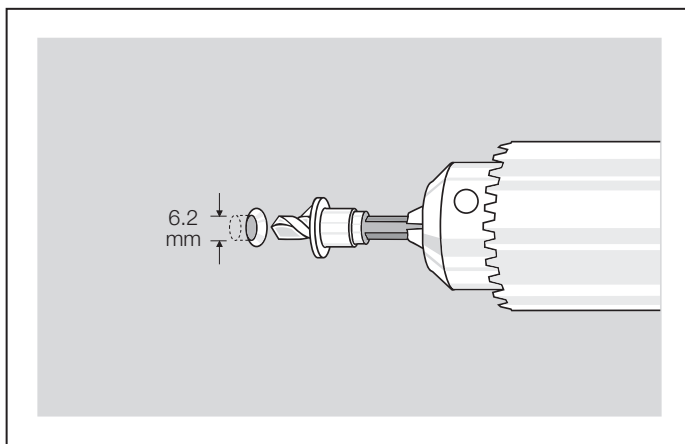
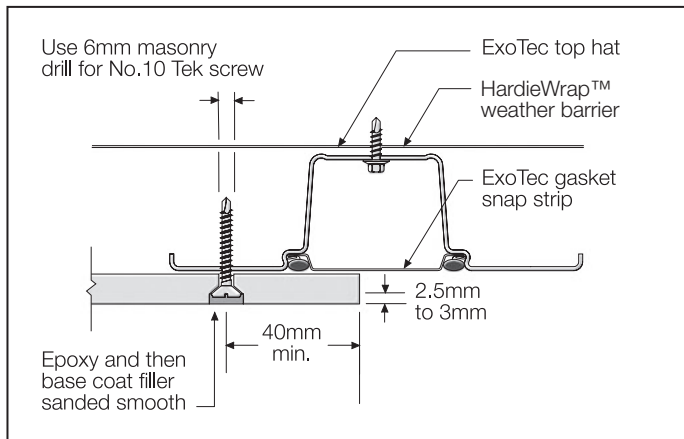

FIGURE 10 DRILL COUNTERSINK HOLE
FIGURE 15 COUNTERSUNK FASTENER DETAIL
2. Drill clearance holes into ExoTec facade panel, for No.10 gauge screws using a 6mm countersunk masonry drill, which provides a 6.2 to 6.3mm diameter hole, see Figure 10. countersink hole to a depth of 2.5mm to 3mm. This is measured from the top of the screw to the top of the sheet, see Figure 15.